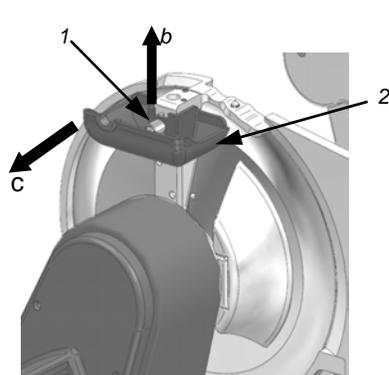

Fig.55
2. Loosen the small knob (Fig.55 ref.1);
3. Lift (Fig.55 ref.b) the tray (Fig.55 ref.2) and remove it (Fig.55 ref.c) so that the small knob (Fig.55 ref.1) passes the widest slot of the tray (Fig.55 ref.2);